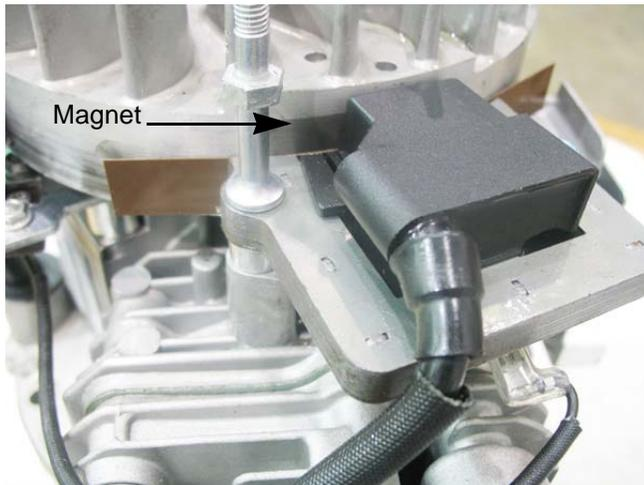

Figure 7.17
4. Rotate the flywheel so that the magnets align with the legs of the module while holding the feeler gauge in place. See Figure 7.17.